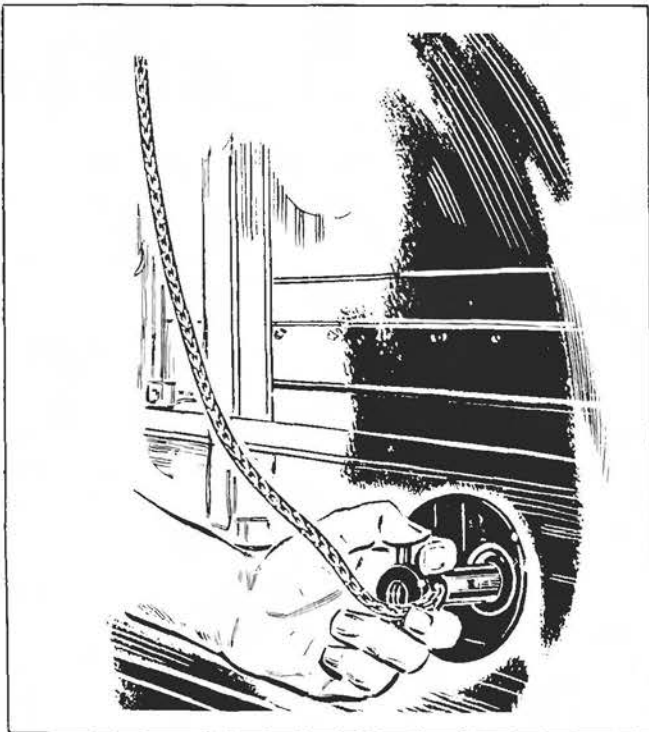

Figure 65—Locking Elevator
*c.* LOCKING ELEVATORS.—The elevators are locked with the elevator key in the same manner after lining up the hole in the elevator quadrant with the hole in the fuselage frame. The gate in the tail gun ammunition track must be opened before the elevator key may be inserted. (See figure 65.)